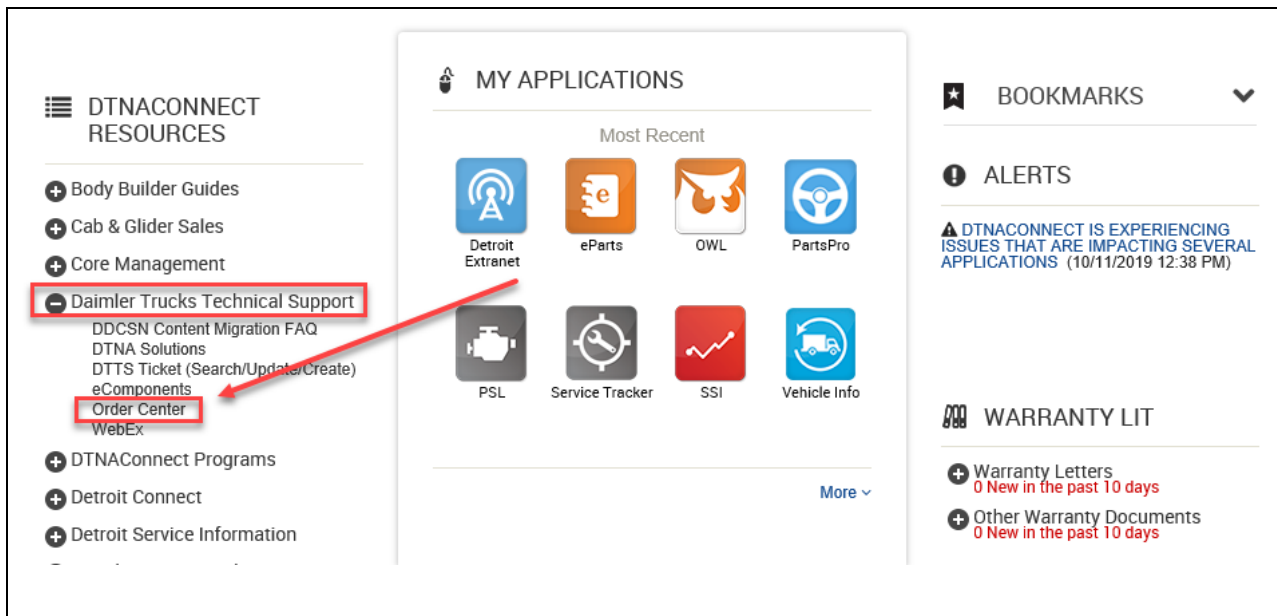

Fig. 8, DTNA Connect
1. Navigate to the Order Center on DTNA Connect. See Figures 8 and 9 below.